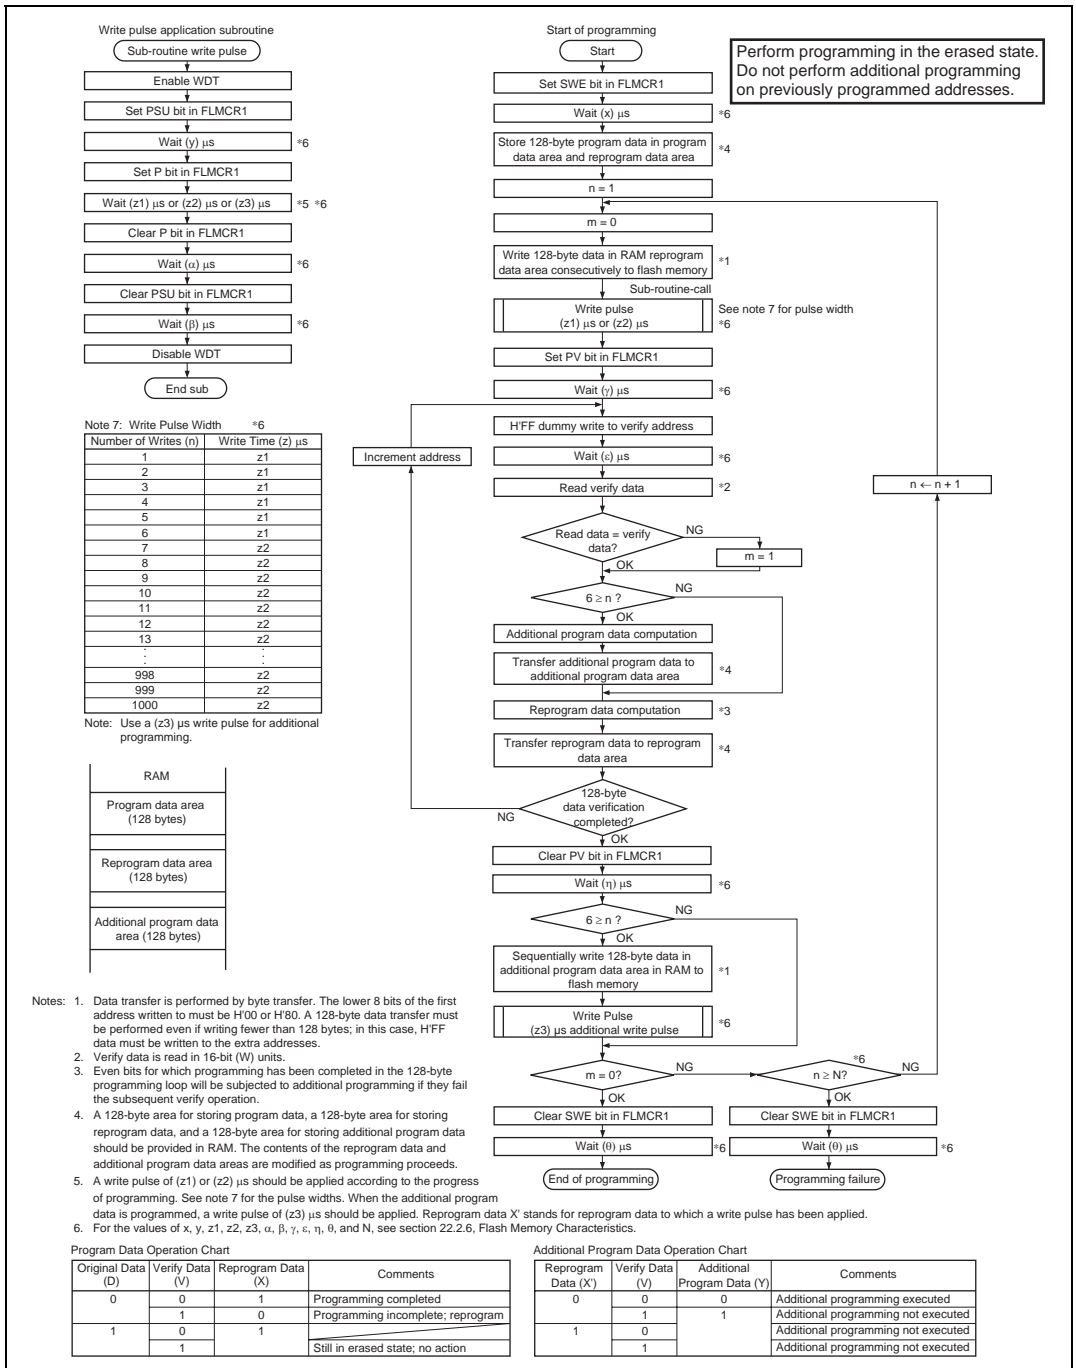

Figure 19.41 Program/Program-Verify Flowchart
Follow the procedure shown in the program/program-verify flowchart in figure 19.41 to write data or programs to flash memory. Performing program operations according to this flowchart will enable data or programs to be written to flash memory without subjecting the device to voltage stress or sacrificing program data reliability. Programming should be carried out 128 bytes at a time.
After the elapse of a given programming time, the programming mode is exited (the P bit in FLMCR1 is cleared to 0, then the PSU bit is cleared to 0 at least (α) μs later). Next, the watchdog timer is cleared after the elapse of (β) μs or more, and the operating mode is switched to program-verify mode by setting the PV bit in FLMCR1. Before reading in program-verify mode, a dummy write of H'FF data should be made to the addresses to be read. The dummy write should be executed after the elapse of (γ) μs or more. When the flash memory is read in this state (verify data is read in 16-bit units), the data at the latched address is read. Wait at least (ε) μs after the dummy write before performing this read operation. Next, the originally written data is compared with the verify data, and reprogram data is computed (see figure 19.41) and transferred to the reprogram data area. After 128 bytes of data have been verified, exit program-verify mode, wait for at least (η) μs , then clear the SWE bit in FLMCR1 to 0, and wait again for at least (θ) μs . If reprogramming is necessary, set program mode again, and repeat the program/program-verify sequence as before. However, ensure that the program/program-verify sequence is not repeated more than (N) times on the same bits.